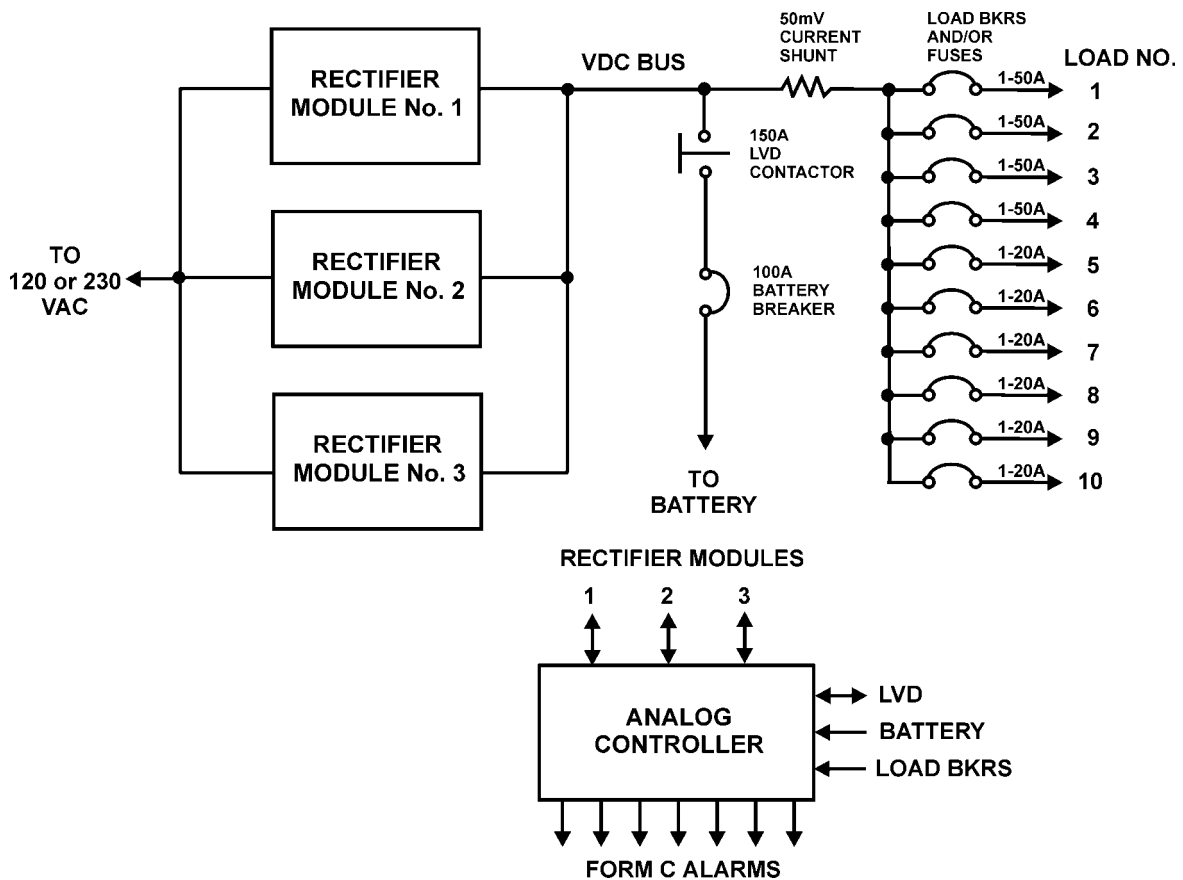

Figure 6. Gravitas X150 Simplified Block Diagram
- 11.1 **Block Diagram.** A simplified block diagram of the Gravitas X150 is shown in Figure 6.